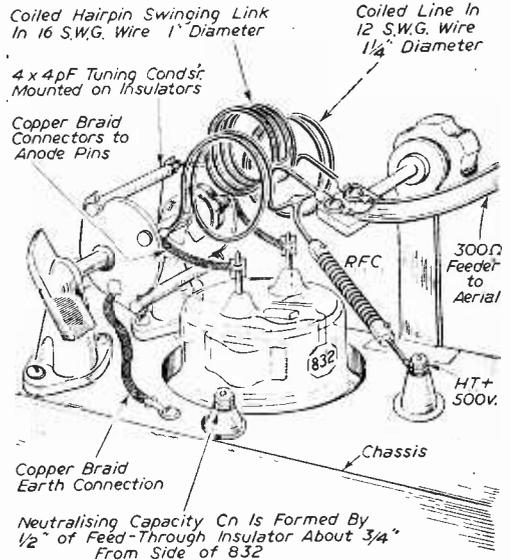

Fig. 2.—Coiled-lines tank circuit.
The actual construction of the lines is shown in Fig. 2. 14in. of 12 s.w.g. wire are taken for their construction and the exact centre of the length is found. The wire is then folded into a hairpin shape, with a straight section in the centre about 0.6in. long. The two ends are then wound around a
- Cn—Very small neutralising capacity (see Fig. 2).